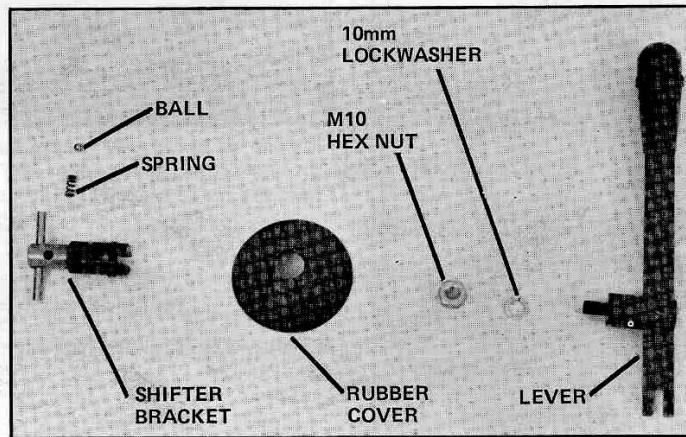

Fig. 19
3. Fig. 19, shows the shifter mechanism components which are shipped unassembled with the planer.